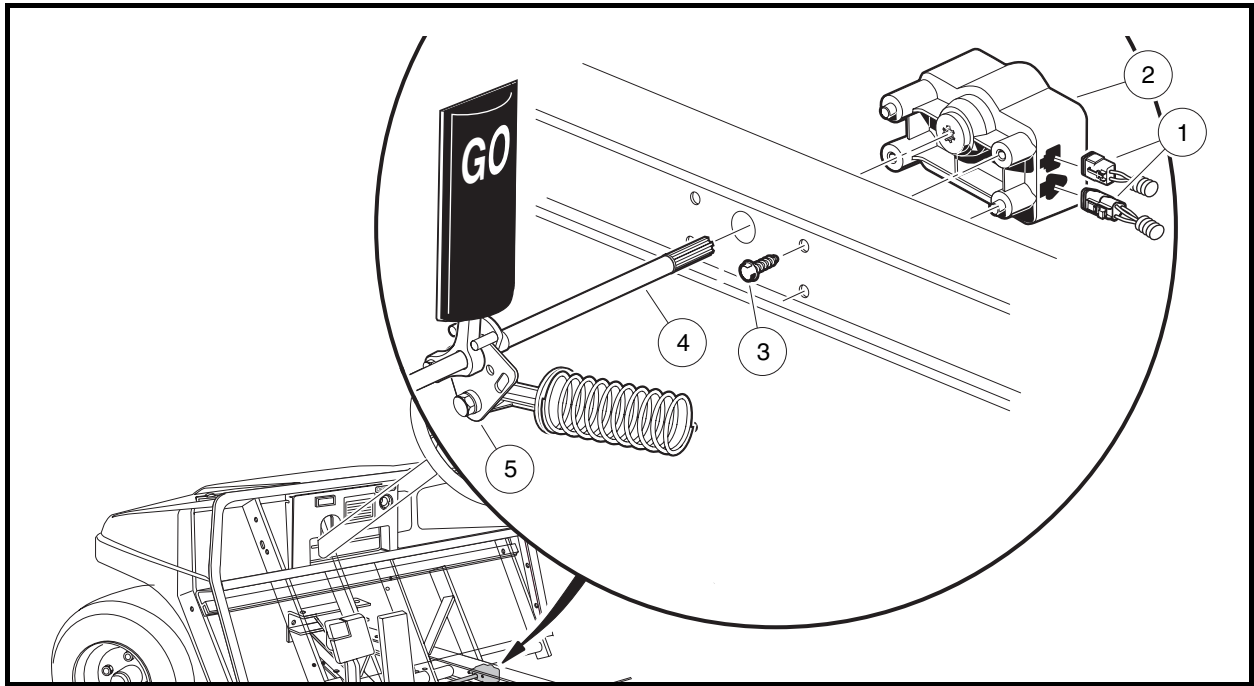

Figure 12-14 Motor Controller Output Regulator (MCOR) Mounting
3. Disconnect the two-pin and three-pin connectors (1) from the MCOR (2) (**Figure 12-14, Page 12-16**).
4. Remove the hex-head screws (3) connecting the MCOR to the frame I-beam.
6. Push the drive bar (4) into the hole in the I-beam to disengage it from the accelerator pivot rod (5).
1. Lift the wire conduit above the access hole in the passenger side I-beam, then insert the splined end of the drive bar (4) through the hole in the passenger-side I-beam as shown (**Figure 12-14, Page 12-16**).
3. Place the MCOR (2) onto the splined end of the drive bar (**Figure 12-14, Page 12-16**). **See following NOTE.**